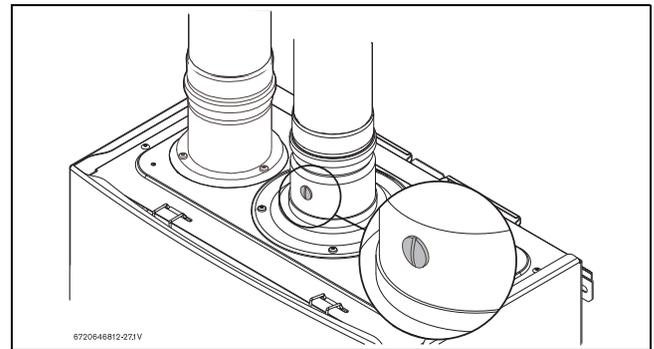

Fig. 67 Measuring port
- ▶ Remove brass flat head screw on the exhaust collar as seen in Fig.67.